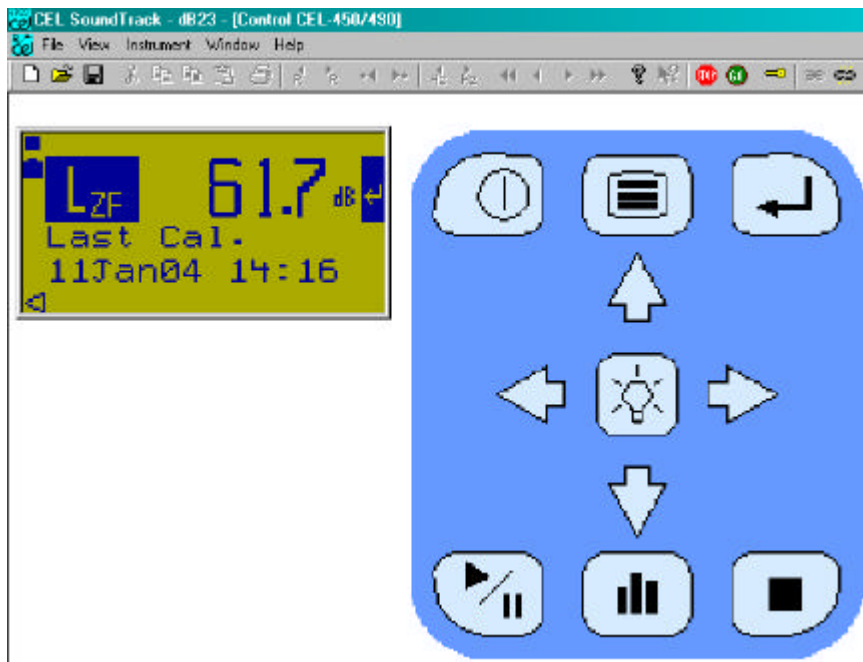

Figure 3: The Control display
3. Press the Connect Link button on the top button bar (Figure 3) to connect directly with the ticked (O) entry on the Instrument menu, (ticked as described in steps 4 and 5), then go to step 7.
After a successful connection, the display illustrated in Figure 3 will be shown on the PC. This on-line display echoes the instrument controls and display of the sound level meter, were